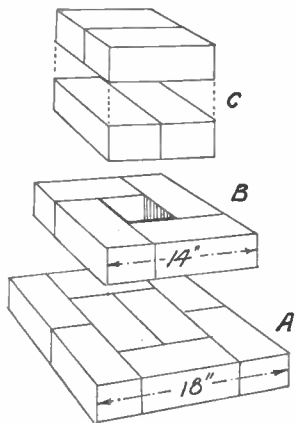

Fig. 1
tar composed of one part cement to three parts of clean sand. Put a $\frac{1}{2}$ in. layer on the top of the concrete, and proceed to lay the first course of bricks as (A) in Fig. 1. Lay over this course a similar bed of mortar and then the second course of bricks. Note that course (A) consists of whole bricks, while course B is one brick and a half square. The measurements are shown. Be sure to lay course (B) on (A) with an equal margin all round.
The actual pedestal can now be commenced, and, as seen at C in Fig. 1 each course consists of two bricks laid in such a manner that the vertical joints do not coincide, or, in bricklayer's terms, they "break joint".